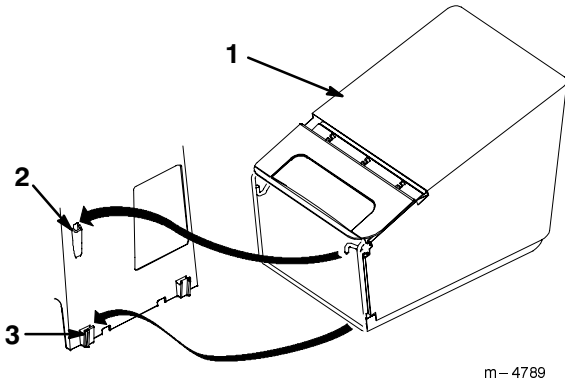

Figure 17
5. Insert the grass bag frame hook into the deck slot and onto the grass bag frame saddles as shown in Figure 17.
4. Lift the grass bag frame from the grass bag frame saddles and out of the opening as shown in Figure 17.